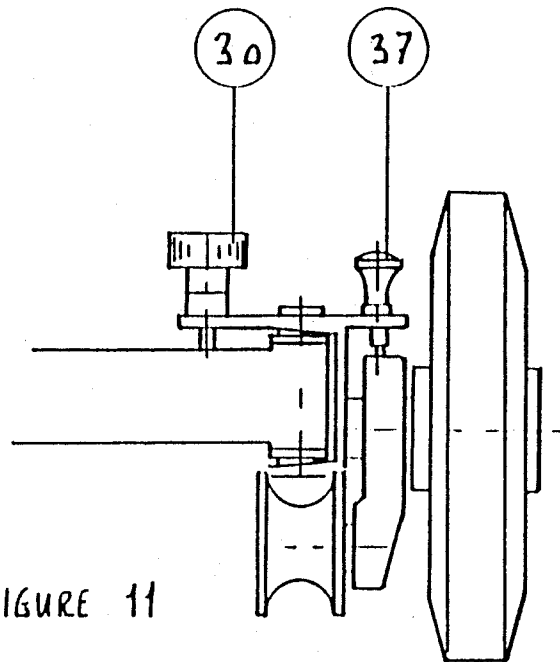

FIGURE 11
3. Pull out the locking pins (no.37 figure 11) at the top of the wheel assembly. The trackwheels will slowly move in position now.
5. Unlock the knobs no.30 (figure 11) to be able to run curved track. We advise you to do this always, also when you do not run curved track.